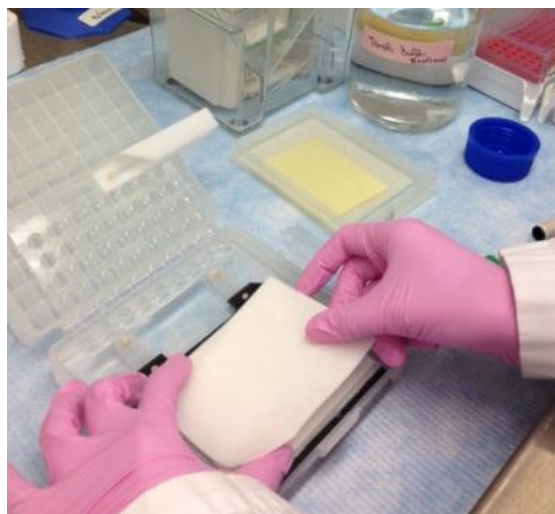

Figure 7g
5.4.6. Soak a piece of whatman paper in 1x transfer buffer and place gently on the sandwich. Again release any air pockets by gently compressing with the plate separator (Figure 7g). Remove any air pockets by gently by compressing the sandwich with the plate separator, in a sweeping motion.